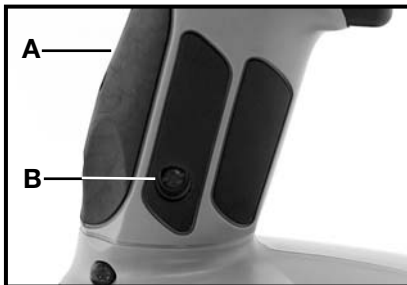
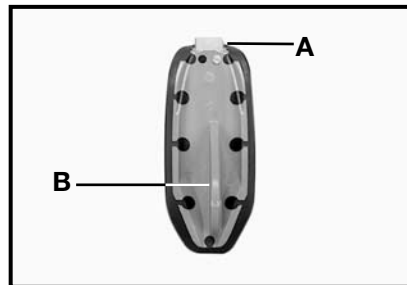

Fig. 6
Fig. 7
The drill is shipped with a medium grip insert (A) Fig. 6 installed. To change the grip, remove the phillips head screw (B) Fig. 6 from right side of the handle by turning it counter-clockwise. Lift the grip insert from the back of the handle. Install a new grip insert by first placing the tab (A) Fig. 7 at the top of the grip into the corresponding slot in the drill/driver handle. The retention fin (B) Fig. 7 will fit in the slot provided. Hold the grip against the handle, and insert and tighten the phillips head screw (B) Fig. 6 until snug. Do not over tighten.